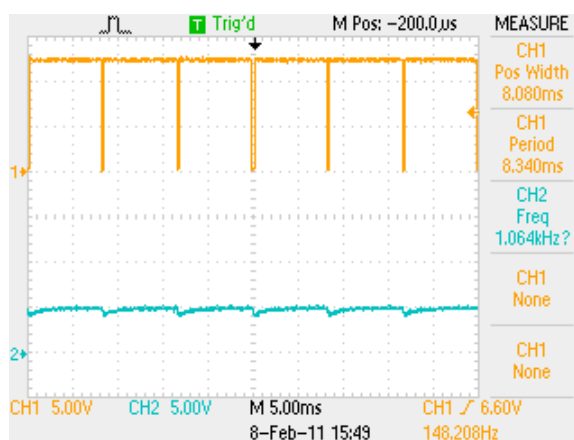
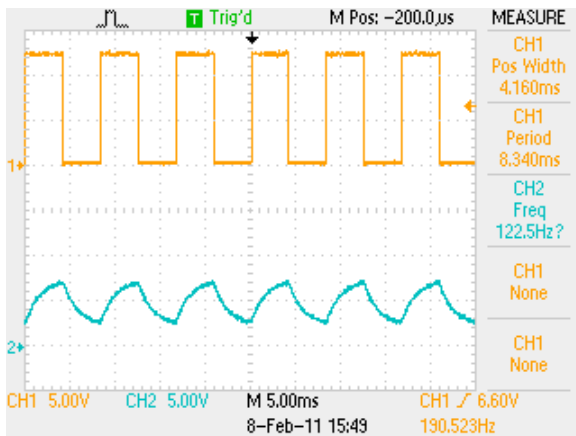

Figure 4 VCO control voltage and phase detector waveform, SIG HI = 0.5 Vdc
Figure 6 VCO control voltage and phase detector waveform, SIG HI = 2.75 Vdc
10.8. Observe the voltage at TP2 to verify that the PLL is in lock. The TP2 voltage should be centered at 5 Vdc with a variable amount of ripple dependent on the SIG HI signal. The TP2 ripple will be at its minimum value at the minimum and maximum SIG HI voltages, as in Figures 4 and 5, respectively. The TP2 ripple will be at its maximum value when the delay angle command is near $\alpha = 90^\circ$ as in Figure 6. Sweep the SIG HI voltage over the full range to ensure that the average voltage does not deviate from 5 Vdc.